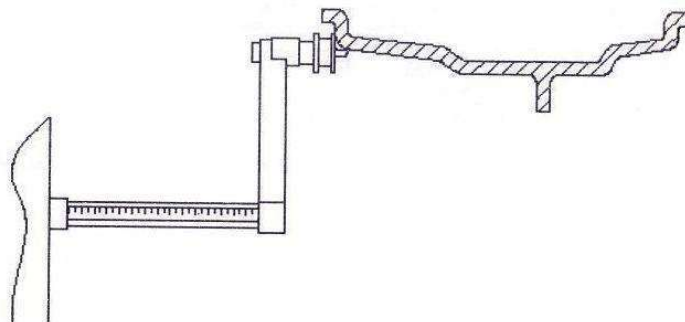

Figure 4.1 Inputting the position of balance weight W1
- Hold the measuring head of the diameter ruler against the inner side of the rim of the tire to be tested, as shown in Figure 4.1 (the screen will display Di2-*** , "****" is the current measurement value of the diameter ruler). Press **【START】** key to confirm.